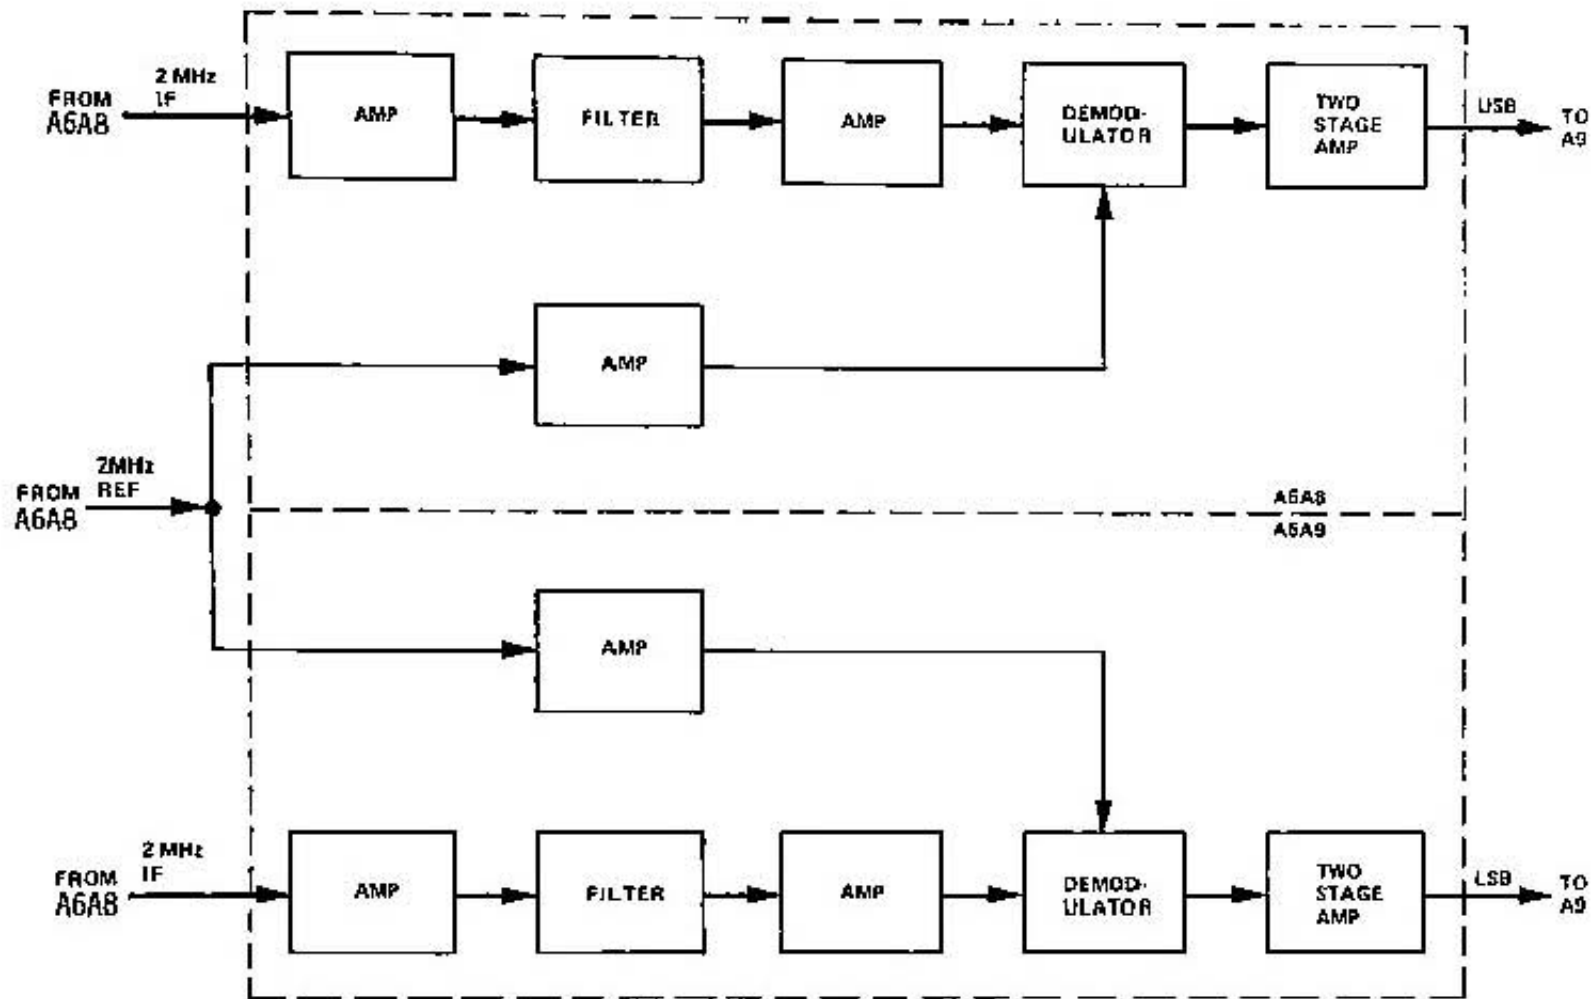

Figure 1. USB and LSB Demodulators (A6A7 and A6A9) Functional Block Diagram
24. USB Demodulator Circuit Card Assembly (A6A7). As shown in Figure 1, the USB demodulator circuit comprises six functional circuits which include; three single stage amplifiers, a filter, a demodulator/mixer, and a two-stage amplifier. The 2 MHz IF (A6A8) is connected to amplifier stage Q1 which provides approximately 20 dB of gain. The amplifier's output signal is routed to filter FL1 which eliminates signals below 2 MHz. The filtered output, through amplifier stage Q2 provides approximately 10 dB of gain to drive one input to the demodulator/mixer U1. The second input to this mixer is the 2 MHz reference from the CW demodulator (A6A8) and is applied through amplifier stage Q3 which provides 3 dB of gain. The mixer output signal, containing the demodulated upper sideband, drives operational amplifier stages U2A and U2B which provide the USB audio output. The output is then routed to the audio video amplifier/COR assembly (A9) for further processing. Potentiometer R26 adjusts the gain of mixer U1.
25. LSB Demodulator Circuit Card Assembly (A6A9). As shown in Figure 1, the LSB demodulator is identical to the USB demodulator except that filter FL1 in the LSB demodulator eliminates the upper sideband (frequency above 2 MHz, so that its output is the LSB audio signal. This signal output is also routed to the audio video amplifier/COR assembly (A9) for further processing. Potentiometer R26 adjusts the gain of mixer U1.